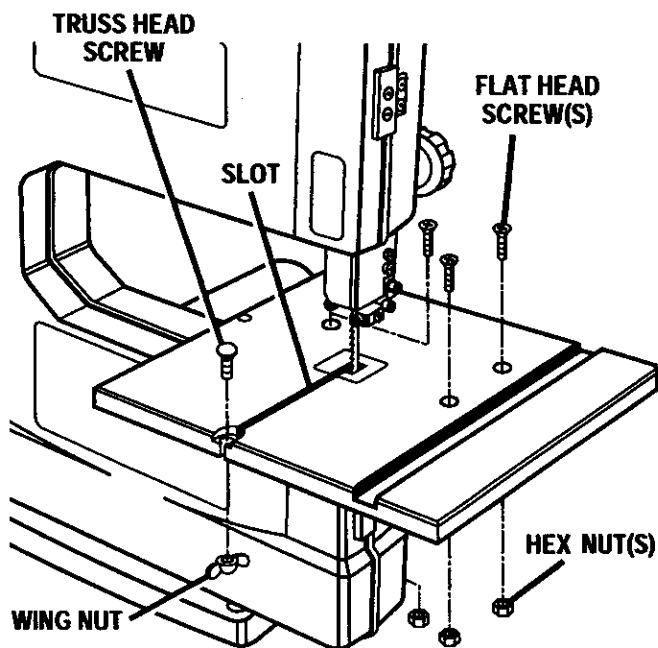

Fig. 8
See Figure 8.
- Loosen and remove the wing nut and truss head screw from the table. See Figure 8.